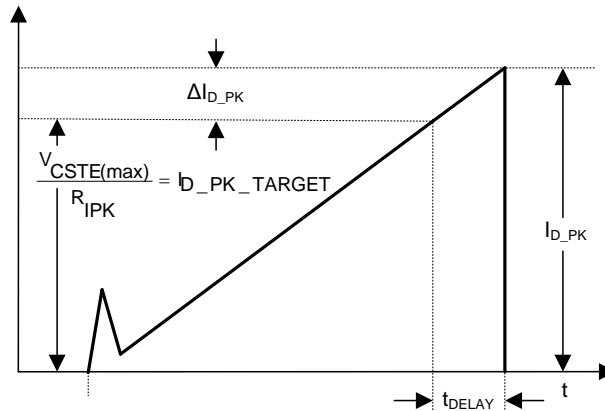

Figure 20. Propagation Delay Effect on the Primary Current Peak
During normal operation the on-time is determined by sensing the power FET current and switching off the power FET as this current reaches a threshold fixed by the feedback loop according to the load condition. The power FET is not immediately turned off and its current, that is also the primary winding current, continues to rise for some time during the propagation delay (t_{DELAY} in Figure 20). Keeping the reference for the PWM comparator constant, the value of the primary winding peak current depends on the slope of the primary winding current and t_{DELAY} .
The current loop estimates the output current assuming the primary winding peak current is equal to the $I_{\text{PK_TARGET}}$ and compares this estimated current with a reference to obtain the current regulation. Considering, $I_{\text{D_PEAK}}$ is different from $I_{\text{D_PEAK_TARGET}}$ (see Figure 20) we need to compensate the effect of the propagation delay. The UCC28910 incorporates fully integrated propagation delay compensation that modifies the switching frequency keeping the output current constant during (CC) Constant Current Mode operation. This function is integrated in the controller and requires no external components. This feature keeps the output current constant despite input voltage variations and primary inductance value spread.